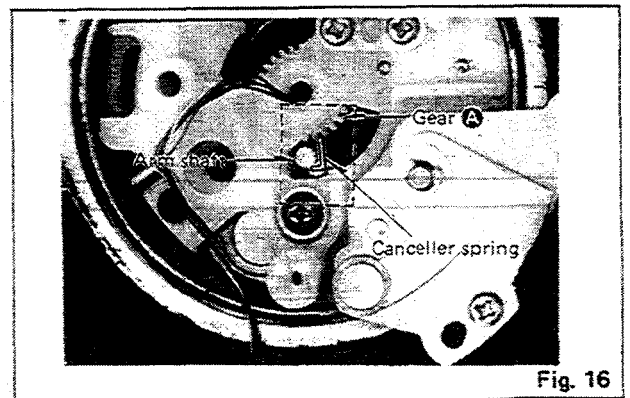

Fig. 16
If the arm body or PU base plate is replaced, be sure to set the canceller knob to "0.5" and make sure that the canceller spring is in contact with the arm shaft. (See Fig. 16) If the canceller spring is deflected, adjust it as follows:
3. Remove the PU base plate, adjust gear Ⓐ so that the canceller spring is in the position of Fig. 16.